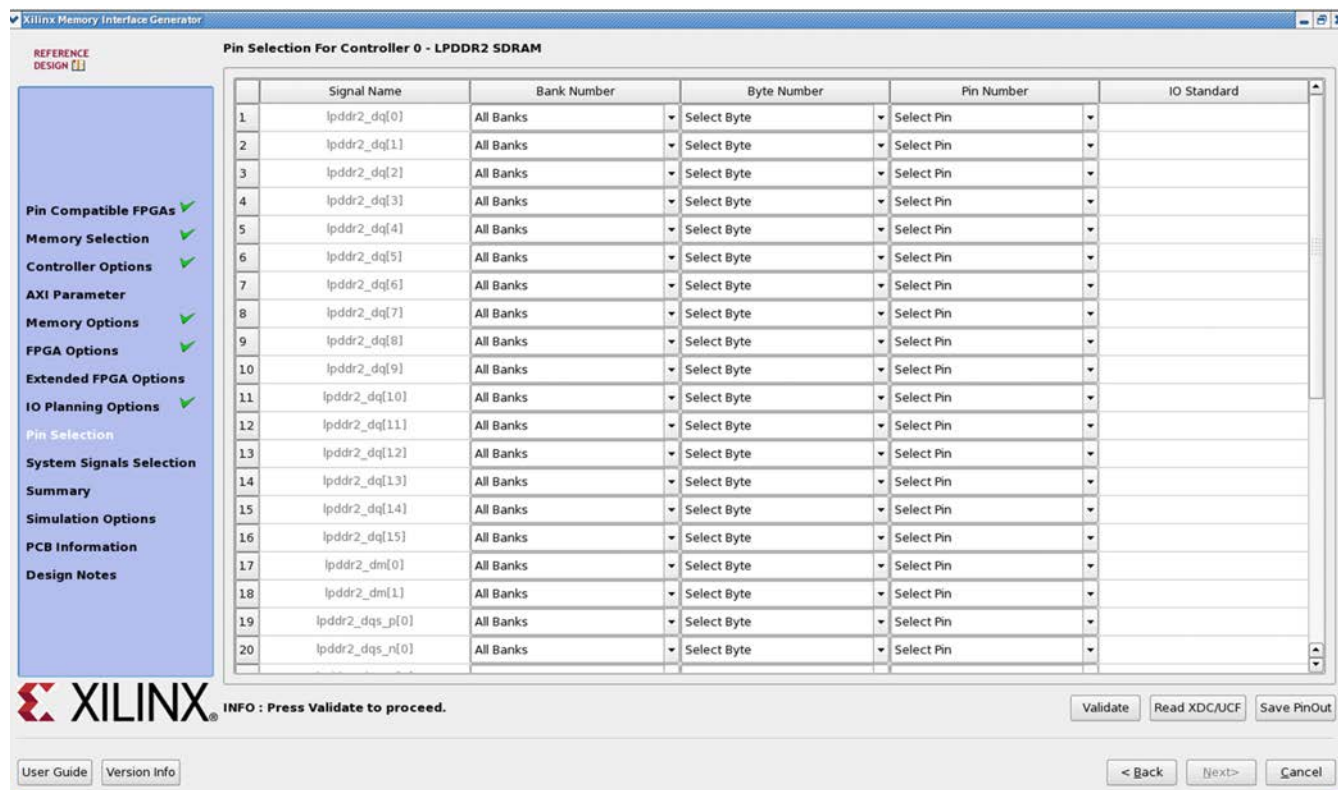

Figure 4-22: Pin/Bank Selection Mode
- **Pin/Bank Selection Mode** – This allows you to specify an existing pinout and generate the RTL for this pinout, or pick banks for a new design. Figure 4-22 shows the options for using an existing pinout. You must assign the appropriate pins for each signal. A choice of each bank is available to narrow down the list of pins. It is not mandatory to select the banks prior to selection of the pins. Click **Validate** to check against the MIG pinout rules. One cannot proceed until the MIG DRC has been validated by clicking **Validate**.